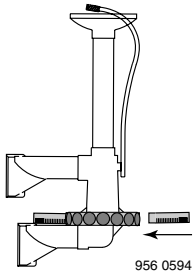

Figure 7
5. Twist lock new laterals into hub on new internal assembly. (Figure 7)